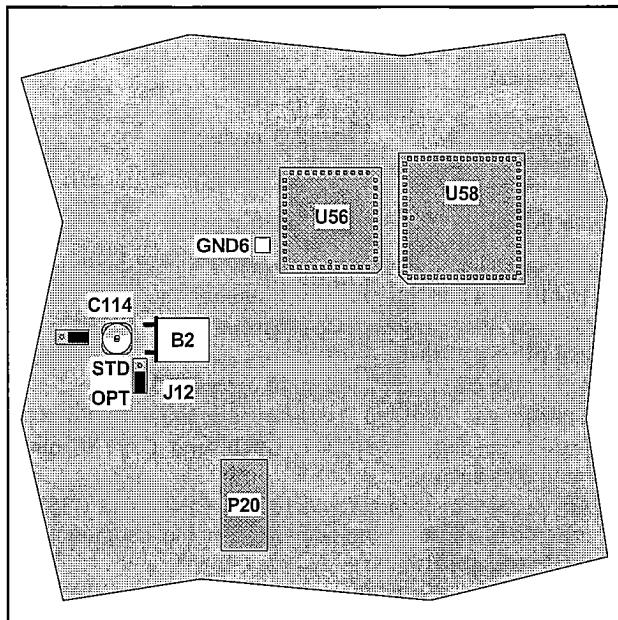

Figure 6-3 Trimmers for the reference oscillator frequency.
- Adjust C114=STD OSC ADJ until the counter reads 10 MHz \pm 2 Hz. See Figure 6-3.